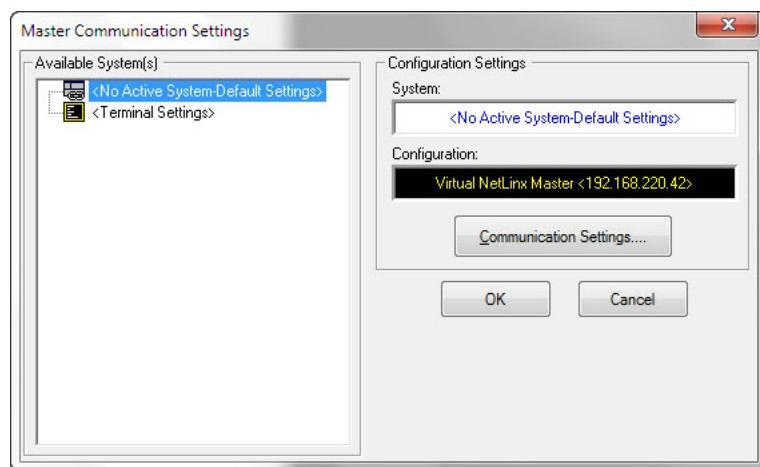

FIG. 29 Master Communications Settings dialog
1. Launch NetLinx Studio and select **Settings > Master Communication Settings** from the Main menu to open the *Master Communication Settings* dialog (FIG. 29).